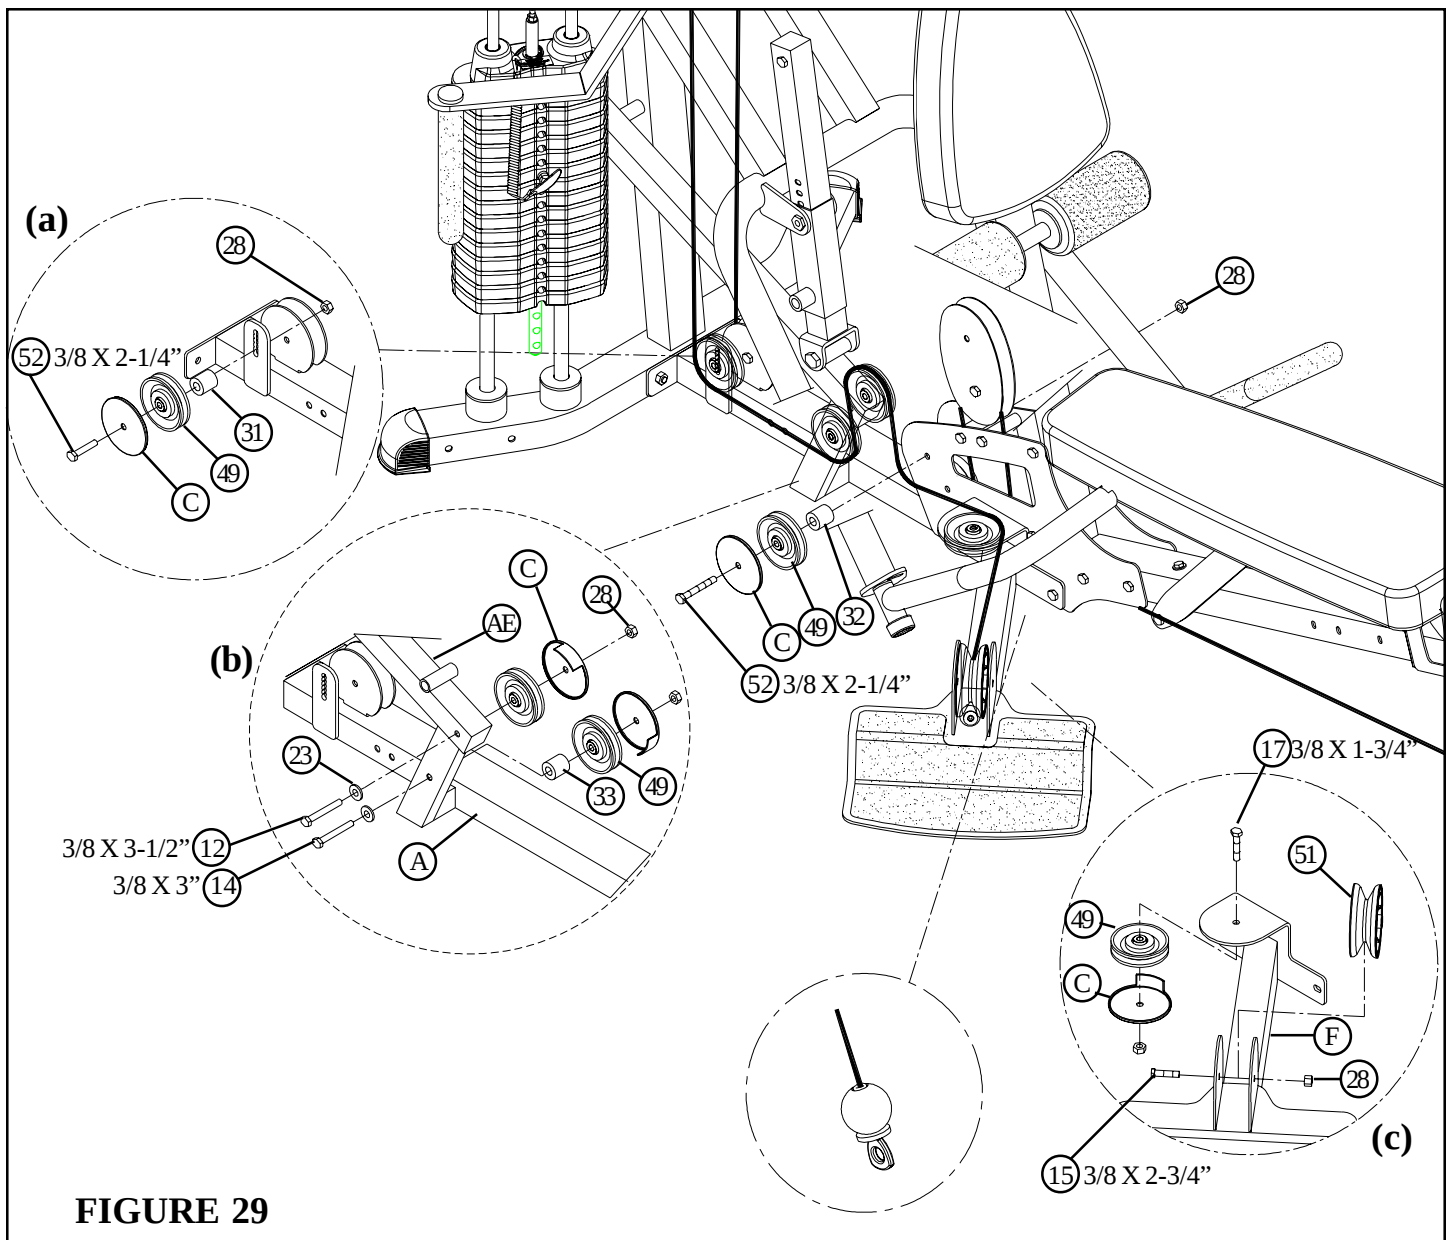

**FIGURE 28**
- Assemble one 3-1/2" PULLEY (49) to the BASE PLATES (B) using one 3/8 X 4" BOLT (10), one 3/8 X 15/16" SPACER (30) and one 3/8" LOCK NUT (28). See FIGURE 28(a) (**Note: Loop the LOW CABLE (AW) around the PULLEY prior to assembling the PULLEY to the BASE PLATES.**)
- Route the LOW CABLE (AW) around one 3-1/2" PULLEY (49) and assemble the 3-1/2" PULLEY (49) to the PULLEY PLATES (L) using one 3/8 X 1-3/4" BOLT (17) and one 3/8" LOCK NUT (28). See FIGURE 28(b)
- Assemble one 3-1/2" PULLEY (49) to the BASE PLATES (B) using one 3/8 X 3-3/4" BOLT (11), one 3/8 X 15/16" SPACER (30) and one 3/8" LOCK NUT (28). See FIGURE 28(a) (**Note: Loop the LOW CABLE (AW) around the PULLEY prior to assembling the PULLEY to the BASE PLATES.**)
- Route the LOW CABLE (AW) around one 3-1/2" PULLEY (49) and assemble the 3-1/2" PULLEY (49) to the bracket on the BASE (A) using one 3/8 X 1-3/4" BOLT (17) and one 3/8" LOCK NUT (28). See FIGURE 28(c)
- Route the LOW CABLE (AW) around one 3-1/2" PULLEY (49) and assemble the 3-1/2" PULLEY (49) to the PULLEY PLATES (L) using one 3/8 X 1-3/4" BOLT (17) and one 3/8" LOCK NUT (28). See FIGURE 28(d)